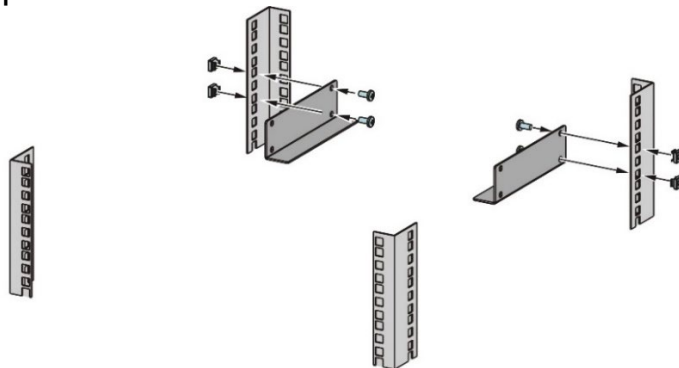
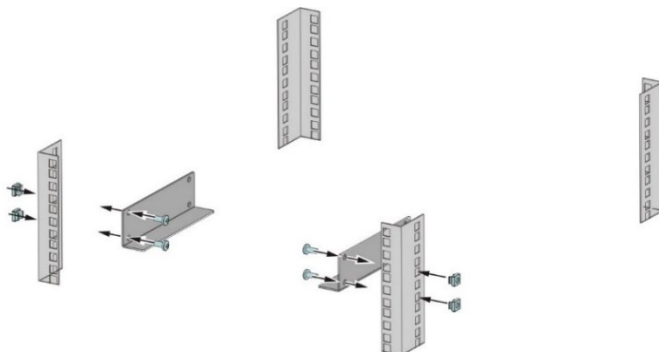

Figure 7: Installing the rear support brackets at the rear posts of the switch cabinet
Figure 8: Installing the rear support brackets at the front posts of the switch cabinet
- ☐ Attach the 2 rear support brackets to the cage nuts using the 4 mounting screws. See Figure 7 and Figure 8, they refer to the different mounting options.